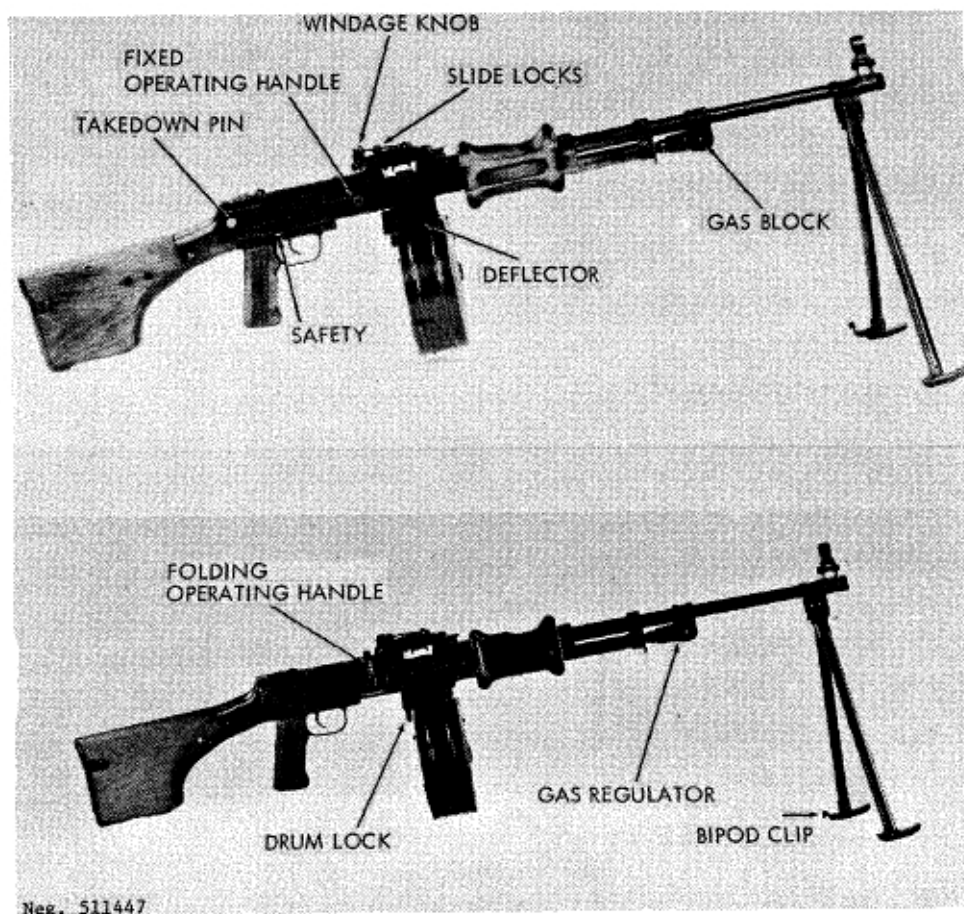

Figure 148. Second and third model RPDs.
Type 56) | As for second version, but has dust covers on feed mechanism and has folding nonreciprocating operating handle (figs 148 and 150). |
b. If the gun is a PRC Type 56-1, press the catch on the dust cover and swing the cover down until it locks into place to serve as a magazine bracket. Once this is done, and in all other cases, slide the drum onto the bracket, from the rear, and rotate the drum lock (fig 148) down to secure the drum in position. If
If the gun is not to be fired immediately, apply the safety (fig 148) by rotating it forward.
c. Open the bipod by unsnapping the bipod clip (fig 148); swing the bipod legs forward until they spring open and lock in place. Fold the bipod by squeezing the legs together; swing them rearward and secure them with the bipod clip.
f. To unload or clear, pull the operating handle rearward, apply the safety by rotating it forward, push the cover catch forward, and open the feed cover (fig 148). Draw the belt to the left and feed it back into the drum so that only the feed tab protrudes. Inspect to be sure that no cartridges remain in the receiver, chamber, or feedway; then close the cover. Turn the drum lock (fig 148) and slide the drum off to the rear. Rotate the safety rearward, holding the operating handle to ease the bolt and the slide forward, and press the trigger. Close all covers; if a Type 56-1, press the latch to release the drum bracket and swing it up to cover the entrance to the feedway.
g. The RPD requires adjustment of its gas mechanism when it becomes fouled. Loosen the nut on the left side of the regulator (fig 148) and press the regulator to the right to disengage
(2) Press out the takedown pin at the rear of the receiver (fig 148) and slide the butt and trigger group off to the rear.